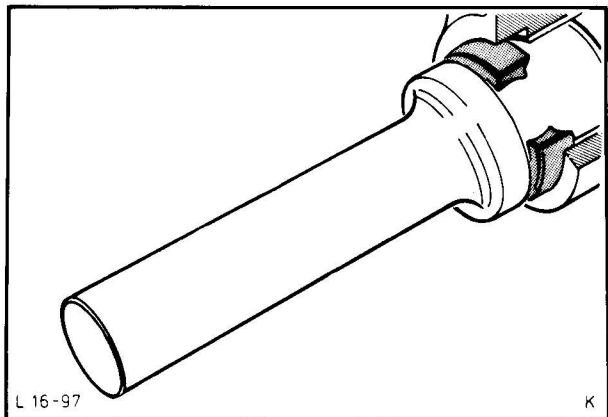

Fig. 98. Fit oil seal with Special Tool No. 16-016
47. Fit new extension housing oil seal with Special Tool No. 16-016, Fig. 98.